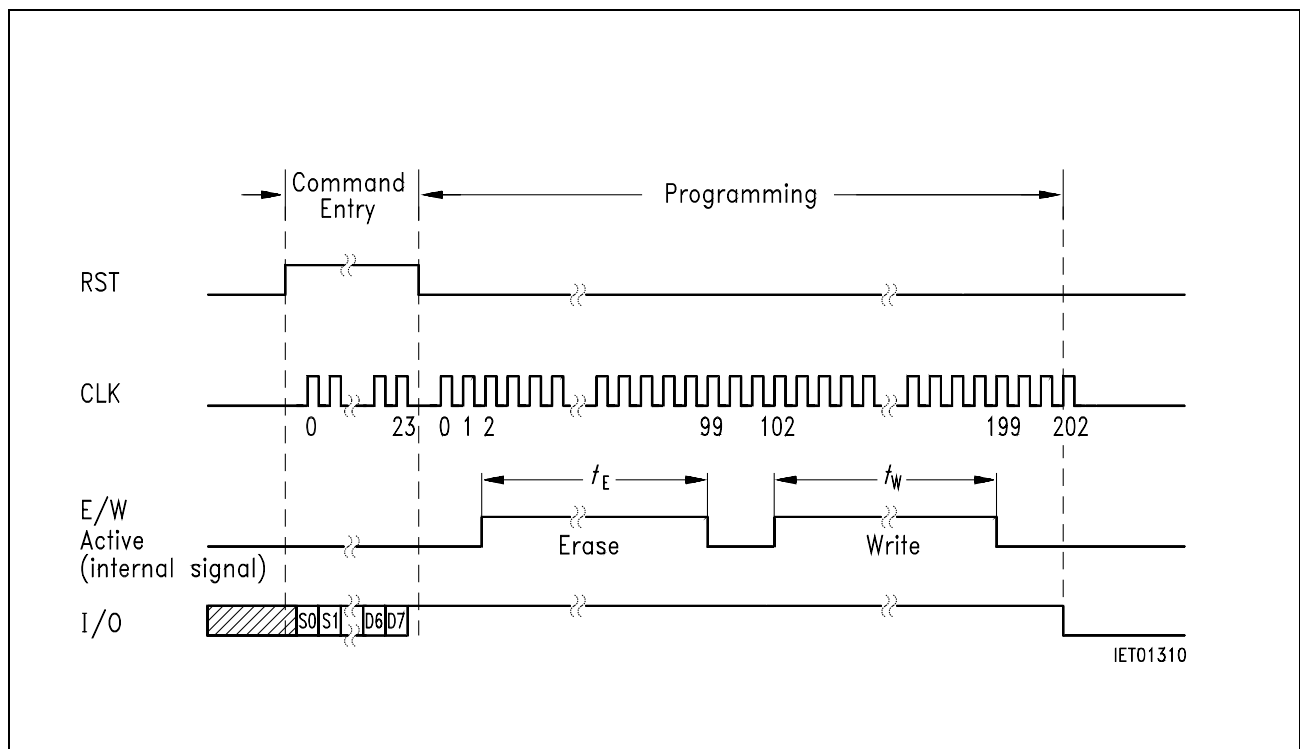

Figure 5
- Erase and subsequent write (duration 203 clock pulses, $f \leq 20$ kHz) **(Fig.5)**